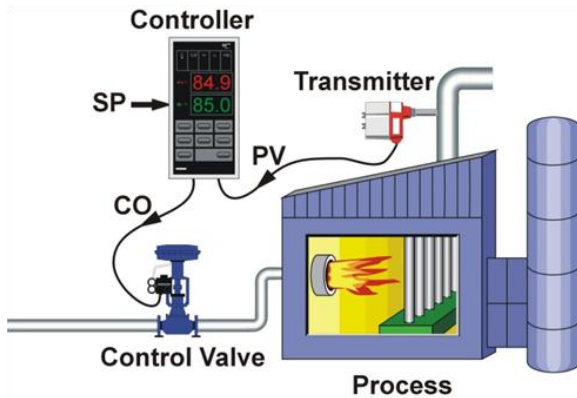

Figure 2
A PID controller has a Set Point (SP) that the operator can set to the desired temperature. The Controller's Output (CO) sets the position of the control valve. And the temperature measurement, called the Process Variable (PV), gives the controller its much-needed feedback. The process variable and controller output are transmitted via current, voltage, or digital signals (Figure 2).